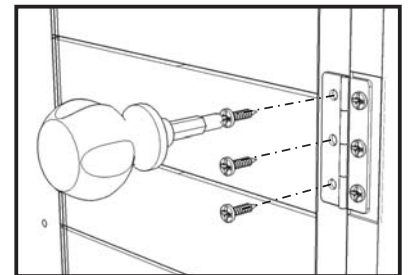

Figure 2
Attach Doors (M), (N), (O) and (P) to unit with Wood Screws for Door Hinge. (See Figure 2)